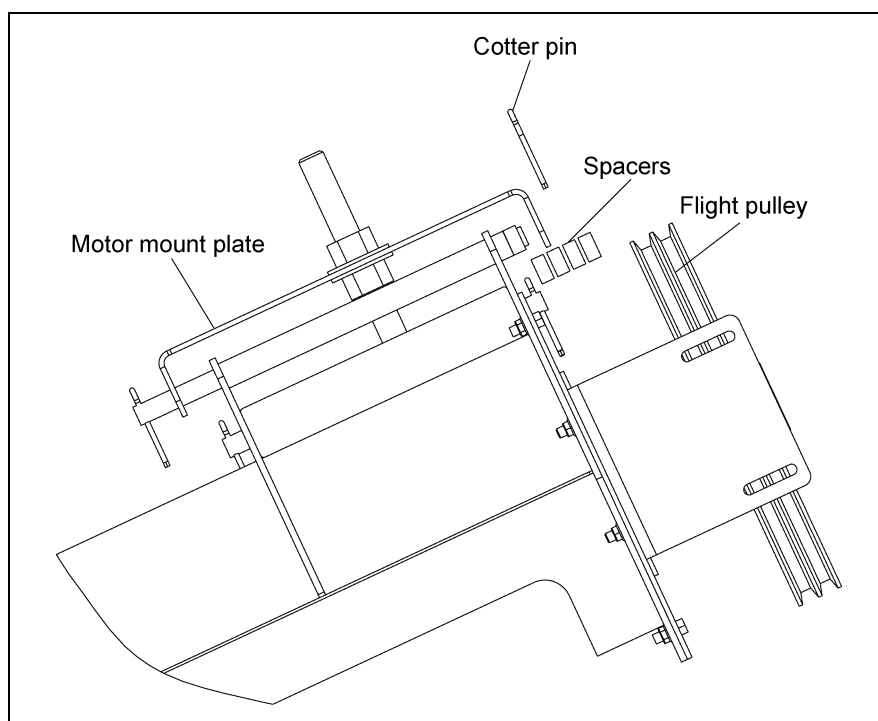

Figure 4P
- B. Install pulley onto motor shaft making sure that it is aligned with the flight pulley. It may be necessary to move spacers to gain shaft alignment. *(See Figure 4P.)*